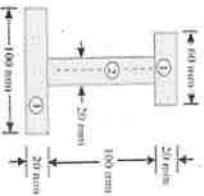

Figure 2
- 5 An I-section is made up of three rectangles as shown in Figure 2. Find the moment of inertia of the section about the horizontal axis passing through the centre of gravity of the section.